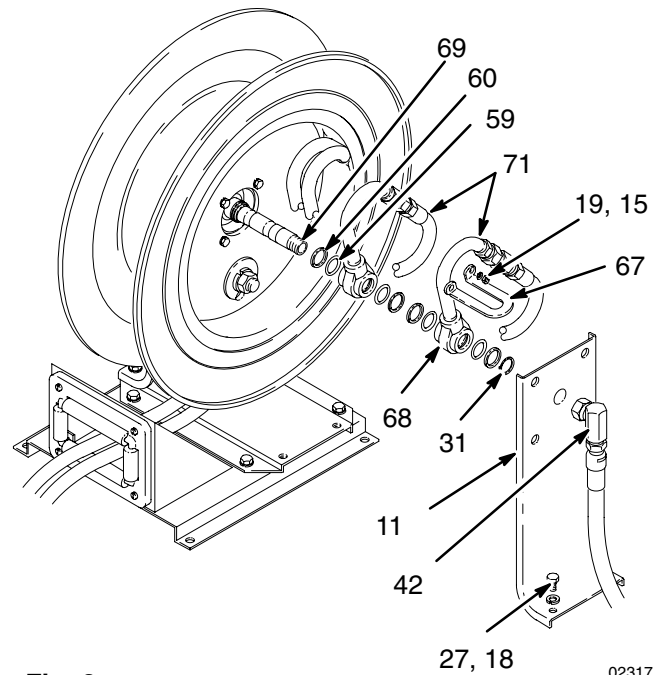
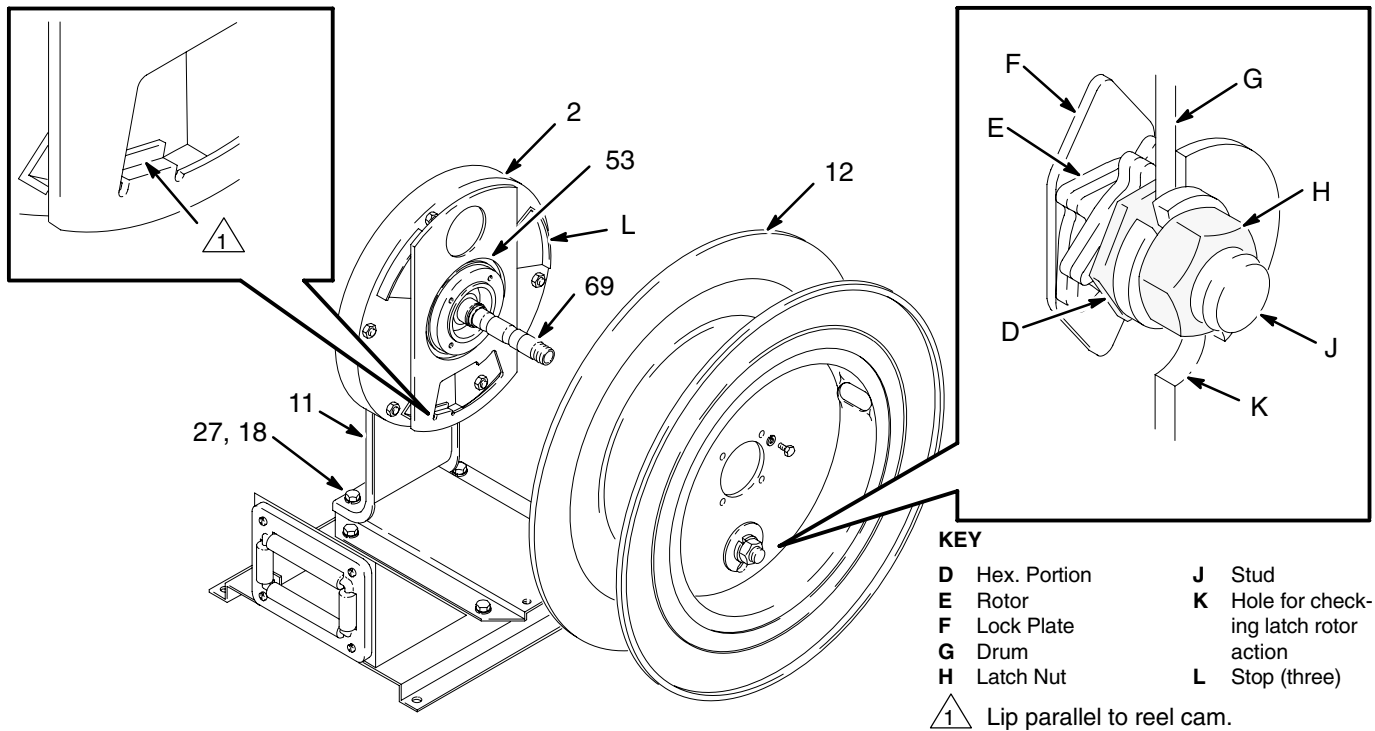

Fig. 3
Fig. 4
If Swivel Elbow Leaks (See Fig. 3)
If Reel Latch Fails (See Fig. 4)
2. Remove the nuts and lockwashers (19, 15) and clamp (67).
3. Remove the retaining ring, and pull the swivel elbows (68) off the shaft.
4. Pull the reel spool (12) off the shaft. See Fig. 3.
5. If the latch nut (16) is loose, hold the hex portion of the stud (44, located inside the spool) with a wrench, and turn the nut tightly onto the stud.
6. If the lip of the offset trip on the reel cam (2) is bent, bend it back until it is parallel to the reel cam. See the detail in Fig. 4.
7. Place the reel spool on the shaft. Look into the hole near the latch nut (16) while rotating the spool, and ensure that the offset lip is making contact with the tooth of the latch rotor (1).